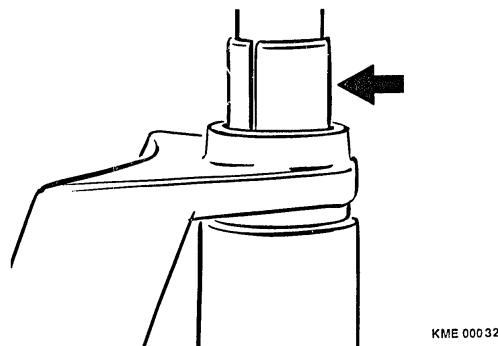

Figure 17 Sliding Bushing Removal
1. Place collector end shield in an arbor press, support mounting/pivot boss on mandrel KDLJ 6016 (Bosch Number 0 986 618 130). (Figure 17)